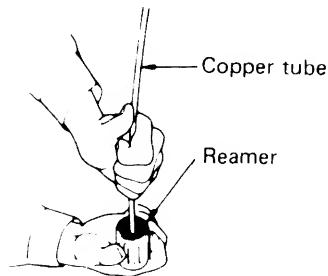

Fig. 21
**NOTE** : When reaming, hold the copper tube end downward and be sure that no copper scraps fall into the tube. Fig. 21